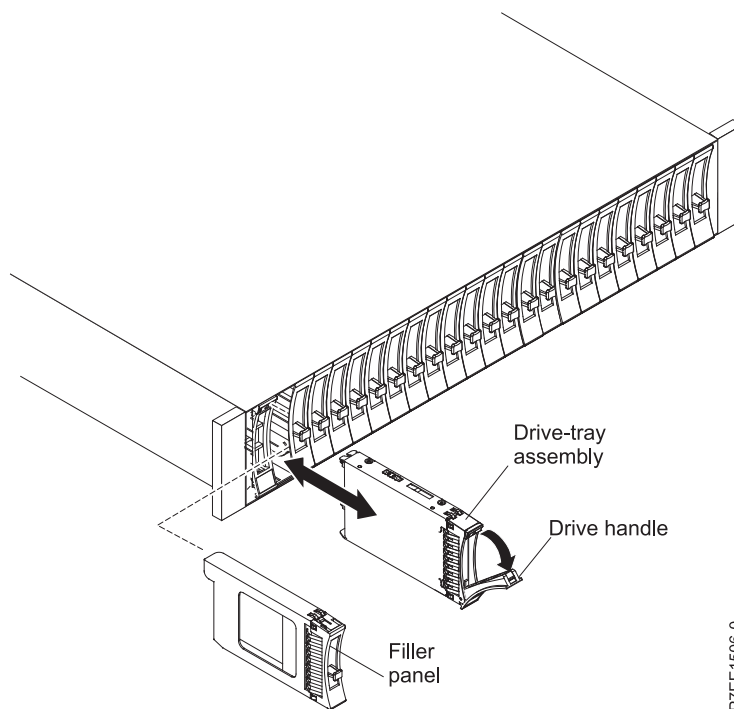

Figure 41. Removing a drive from an ESLS storage enclosure
5. Grasp the front of the drive and pull it out from the slot, ensuring that you support the bottom of the drive, as shown in Figure 41.